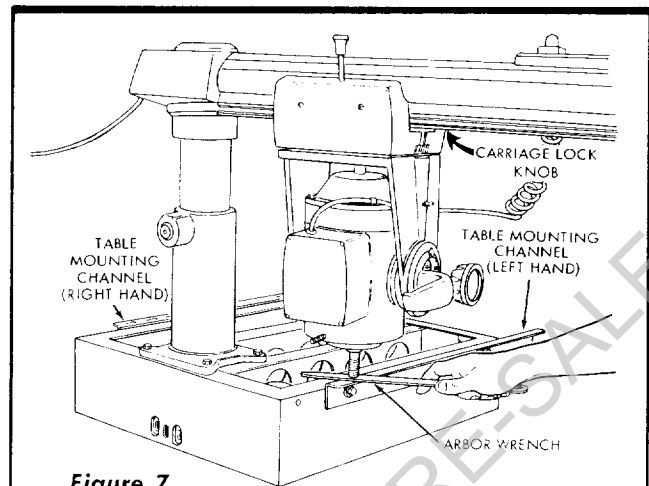
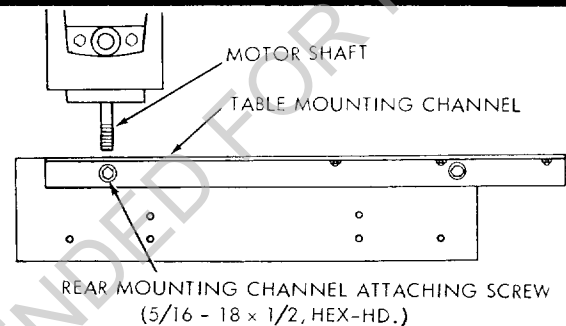

Figure 7
Figure 8
is directly over the rear mounting channel attaching screw. (See figure 8.) Then, with the elevation crank, lower the carriage until the end of motor shaft is slightly above the top surface of the left-hand table mounting channel. (See figure 7.)
- h. Slide the arbor wrench handle (figure 7) between end of motor shaft and mounting channel, to serve as a "feeler" and assist in achieving an accurate measurement. Carefully lower the motor with elevation crank until the end of shaft is just touching the arbor wrench. The operator should be able to slide the arbor wrench back and forth with only slight resistance.
- l. Tighten the two 5/16-inch hex-head screws (figure 8) securely to retain the adjustment. Recheck both positions to make sure that tightening screws did not affect the accuracy of the adjustment.